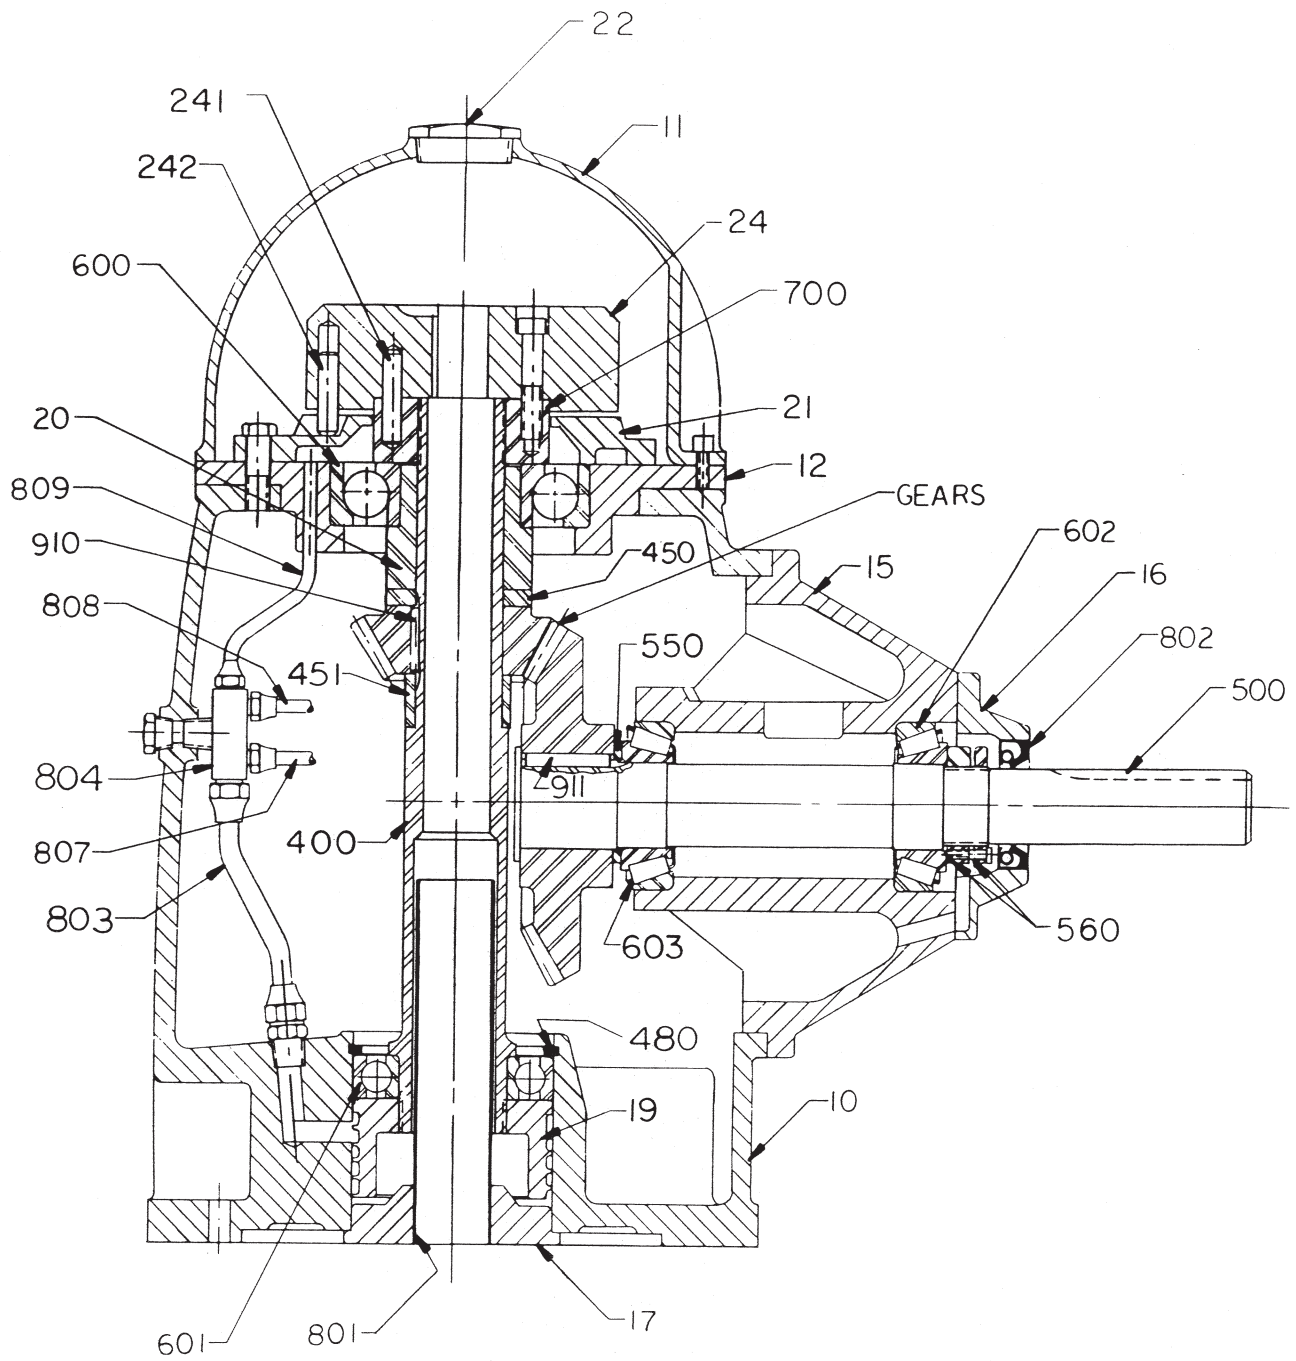

Figure 1
- 2.1 On older models using a driving nut (700) (see Figure 1 or 2), remove the driving nut using a spanner wrench or strap wrench. The driving nut has right hand threads on gear drives with CCW pump rotation and left hand threads on others. Proceed to Step 2.4.
- 2.7 Remove the thrust bearing(s) (600) from the thrust bearing carrier (12) with a brass punch or a bearing puller.
Note: On some models the thrust bearing(s) will be pressed on a bearing bushing (20) (see Figure 1 or 4). To remove, block under the bearing bushing and press on the bearing.
- 2.8 Remove the set screw in the side of the oil screw (19).